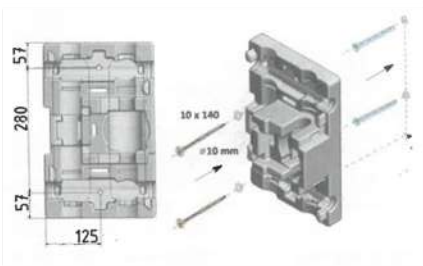

Fig. 4: Pump group wall mounting
Procedure for installing the pump group directly on the wall (Fig. 4):
2. Position the Iso base plate against the wall and mark the drill holes, or alternatively mark the hole dimensions as shown in Fig. 4.